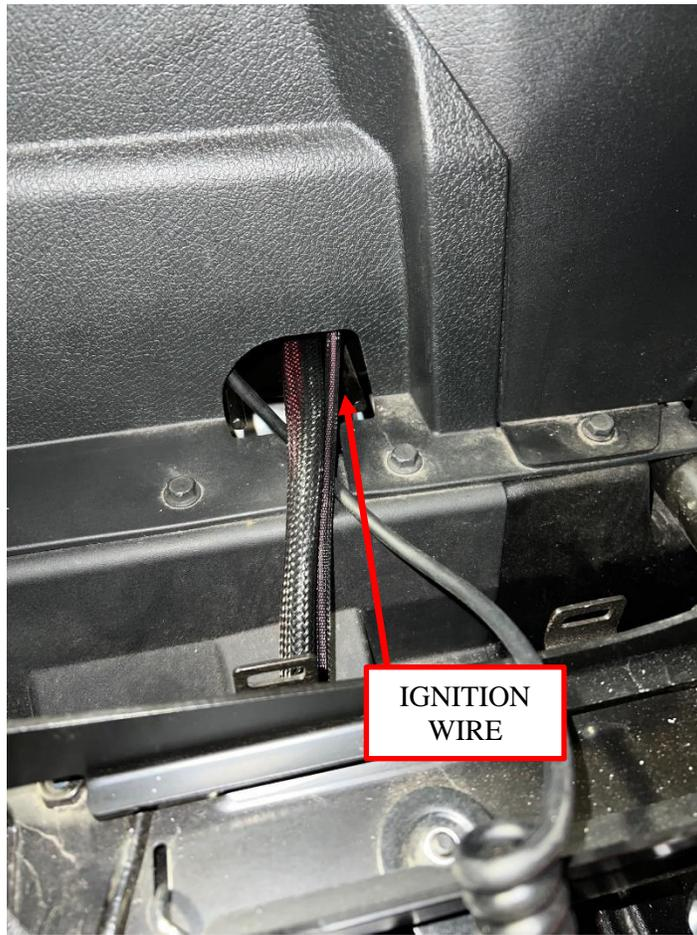

Figure 11: Extend ignition wire into center console.
10. Extend the ignition wire connectors (pink wire with quick disconnects) through the opening into the center console. See Figure 11.